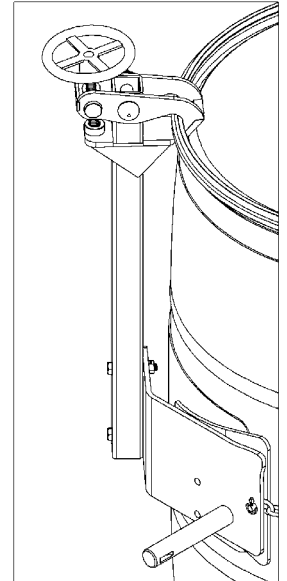

Figure 2.2
- The **Top Rim Clamp** (Part # 4560-P) grips the upper rim of your drum to prevent it from slipping through the drum holder (see figure 2.2). To handle a 55-gallon (210 liter) plastic drum with top rim, you **must** install either the Bracket Assembly or the Top Rim Clamp. You can use the Top Rim Clamp with a 55-gallon plastic, steel or fiber drum with suitable top rim.